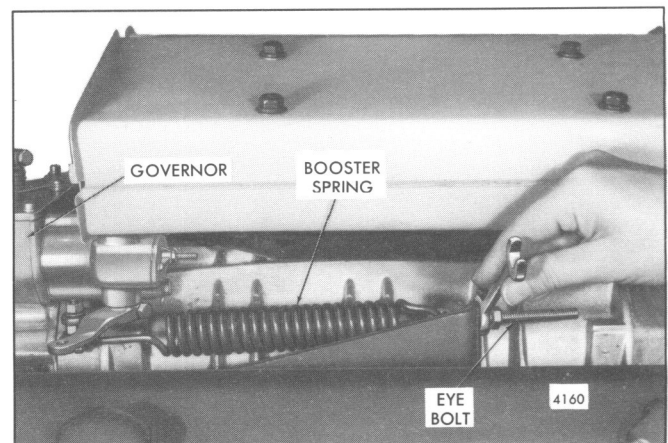

Fig. 9 – Adjusting Booster Spring
2. Refer to Fig. 9 and loosen the nut on the booster spring retaining bolt on the governor speed control lever. Loosen the locknuts on the eyebolt at the opposite end of the spring.